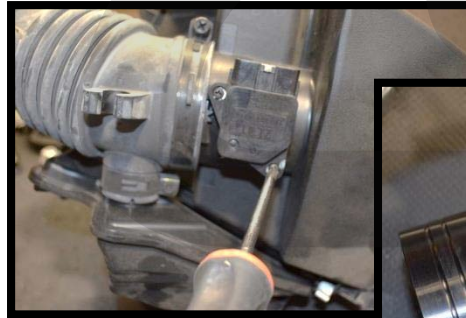

Figure 6a
- a) Remove the MAF sensor from the factory air filter housing (Figure 6a).
- a) **Remove the MAF sensor from the factory air filter housing** by removing the two Phillips head screws and gently prying the sensor free (Figure 6a).